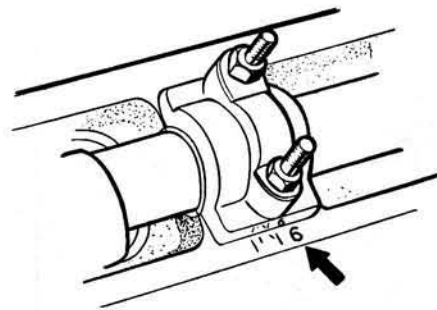

Fig.1.9. Corresponding numbers on cylinder head and camshaft bearing cap
- 3 Remove the bearing caps, noting that the caps and the cylinder head are marked with corresponding numbers as illustrated in Fig 1.9. Also note that the bearing caps are located to the lower bearing housings with hollow dowels.